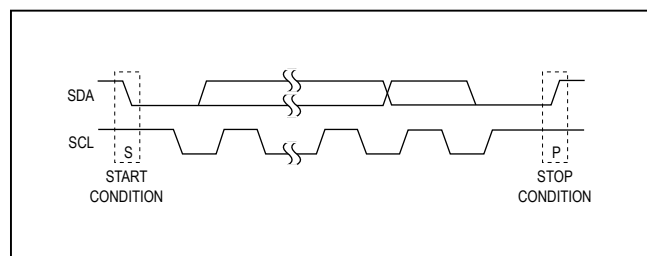

Figure 2. Start and Stop Conditions
Each transmission consists of a START condition sent by a master, followed by the MAX7322's 7-bit slave address plus R/\overline{W} bit, one or more data bytes, and finally a STOP condition (Figure 2).
Both SCL and SDA remain high when the interface is not busy. A master signals the beginning of a transmission with a START (S) condition by transitioning SDA from high to low while SCL is high. When the master has finished communicating with the slave, the master issues a STOP (P) condition by transitioning SDA from low to high while SCL is high. The bus is then free for another transmission (Figure 2).